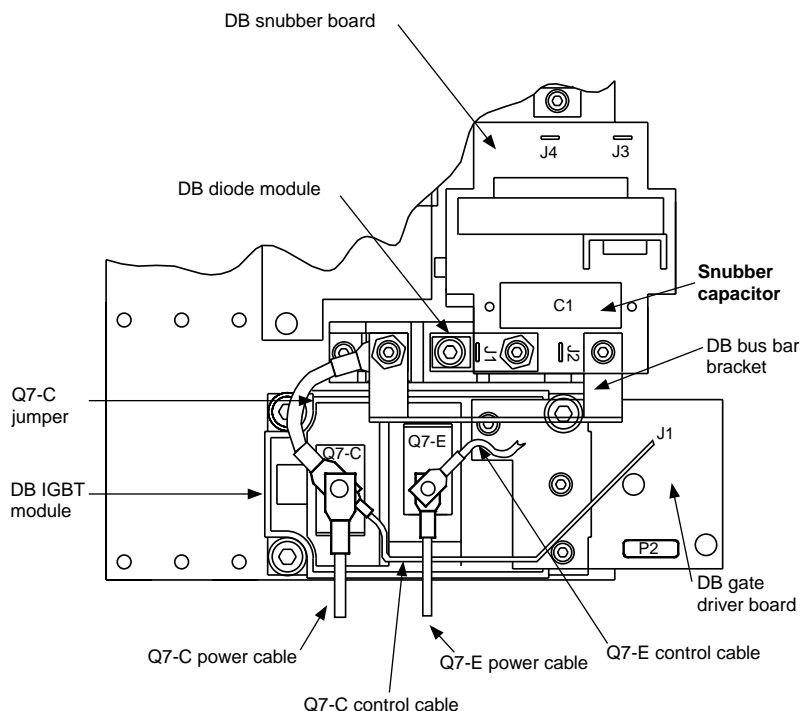

Figure 4.1.18: DB Snubber Board, Gate Driver Board, IGBT, Diode
- Snubber boards. Refer to Figure 4.1.13 on page 4.1.21 and Figure 4.1.18 on page 4.1.37 for location.
2. Using needle nose pliers, carefully disconnect the J2 connector on the DB snubber board (see Figure 4.1.18 on page 4.1.37).
1. Align the mounting holes on the DB snubber board with the mounting posts in the controller (see Figure 4.1.18).
5. Using a hex key wrench, loosen and remove the remaining mounting screw for the DB snubber board bus bar bracket (see Figure 4.1.18 on page 4.1.37). Remove the bracket.
8. Using a hex key wrench, remove the screw located at the Q7-C terminal of the DB IGBT module (see Figure 4.1.18 on page 4.1.37). This frees the Q7-C control wire which is attached to the DB gate driver board at the J1 location.
1. Align the mounting holes on the DB gate driver board with the mounting holes on the DB IGBT module (see Figure 4.1.18 on page 4.1.37).